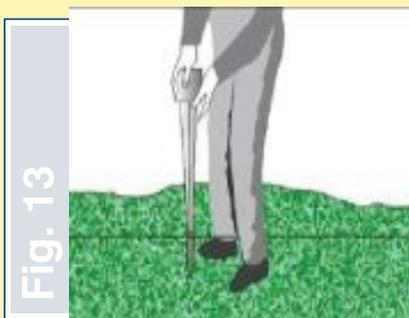

Fig. 13
- in a place prepared earlier for assembly purposes, force a point-ended sleeve into the ground by hand - Fig. 13